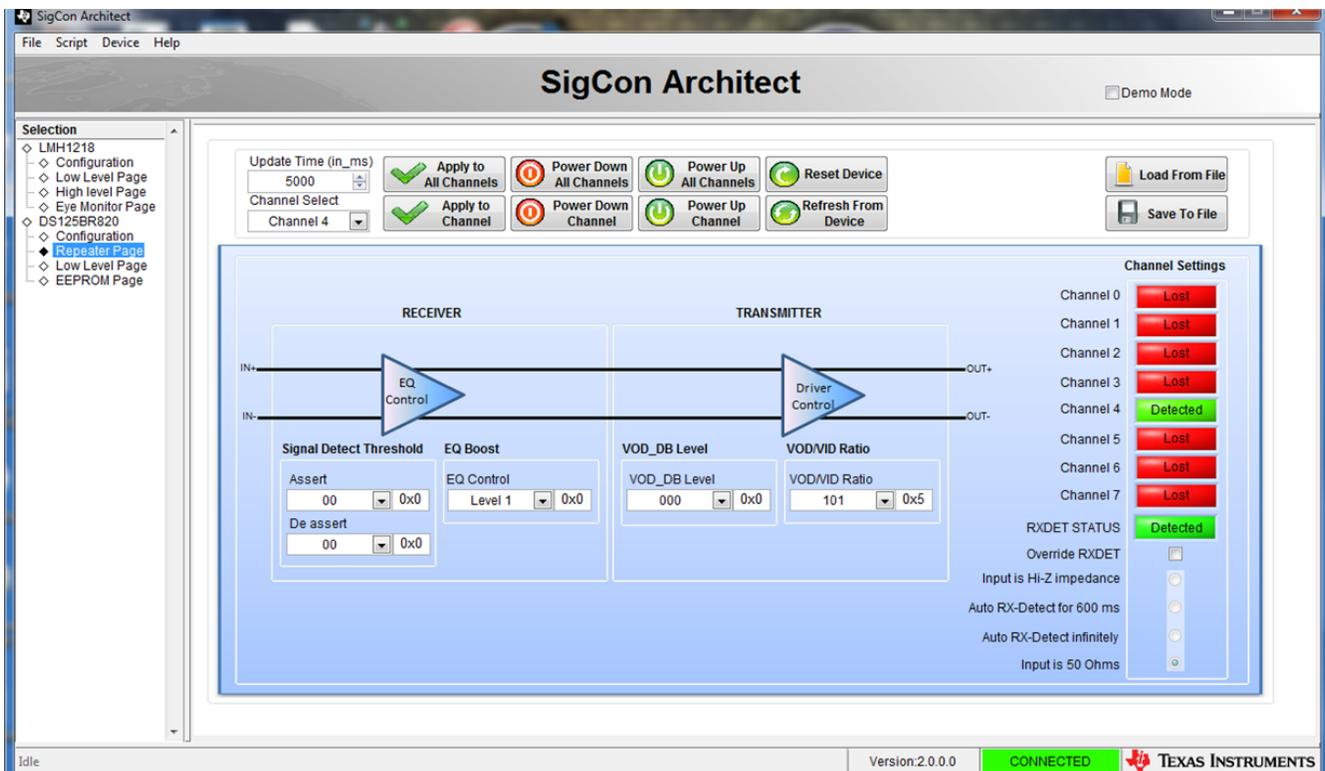
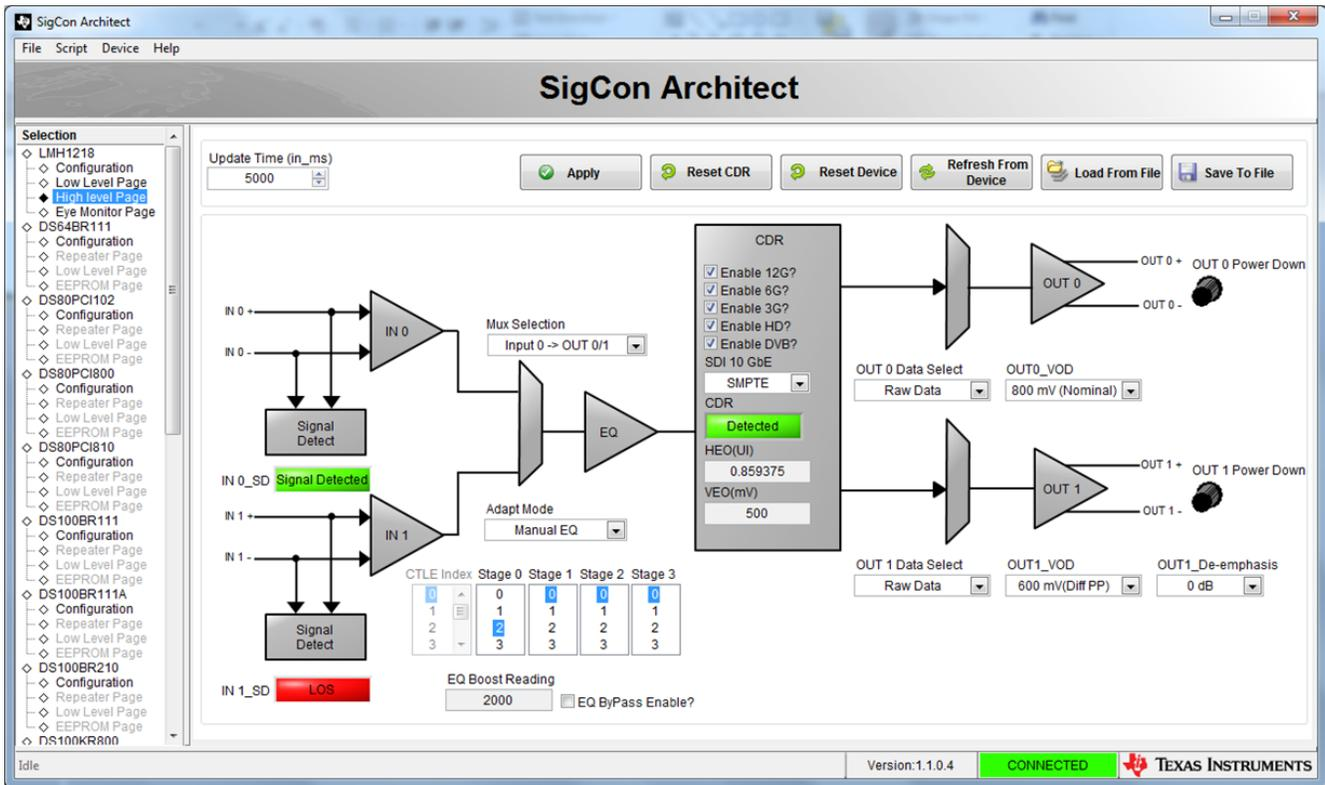

Figure 1. DS125BR820 Repeater High Level Page
Figure 2. LMH1218 Cable Driver High Level Page
- **High Level Page:** The main device controls are available on a simplified block diagram of the channel design. You can modify key signal-conditioning parameters and monitor important status indicators. Figure 1 and Figure 2 are examples of the high-level control page.